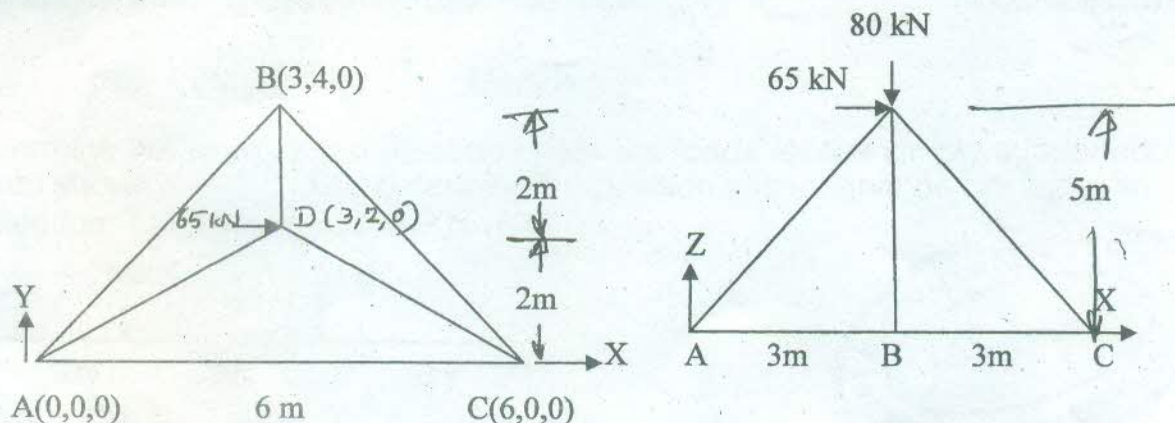

Fig. 4
- 13. Using the method of tension coefficients, analyse the space truss shown in Fig. 4 and find the forces in the members of the truss.